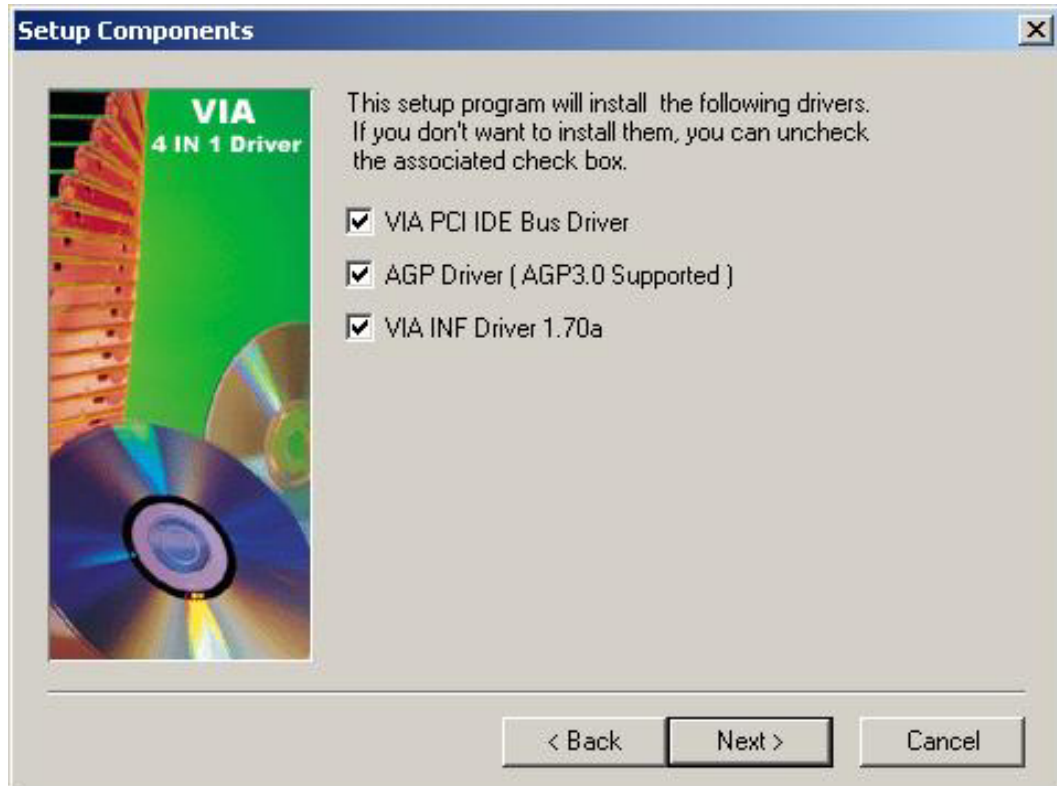

Figure 6-6: Driver Selection
Step 7: Select the setup components (see **Figure 6-6**) that must be installed in the system. There are setup components: